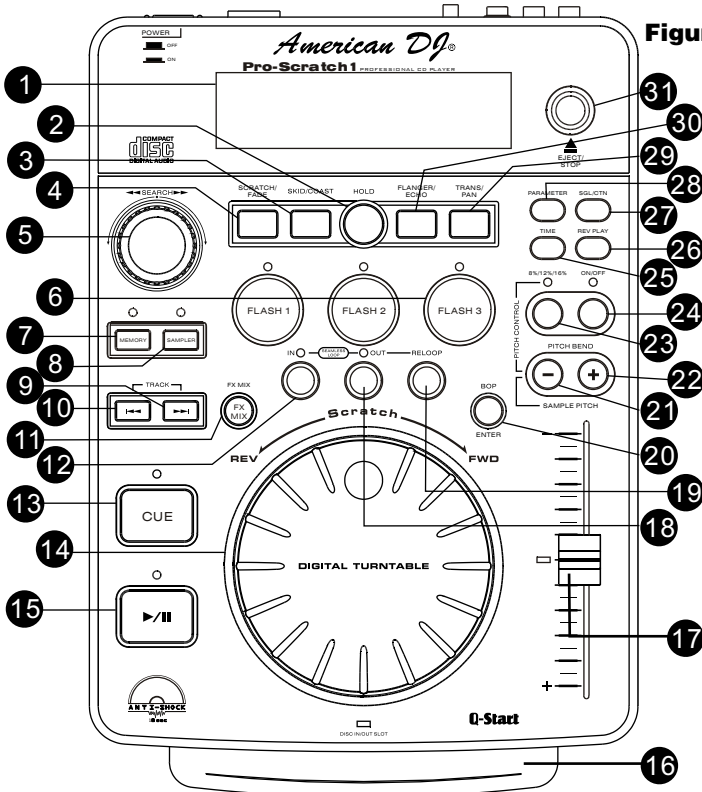

Figure 3
A. TOP UNIT CONTROLS (FIGURE 3)
6. **FLASH BUTTONS 1-3** - These buttons are used to store either three (3) cue points or three (3) samples. Each Flash Button can store either a sample or a cue point.